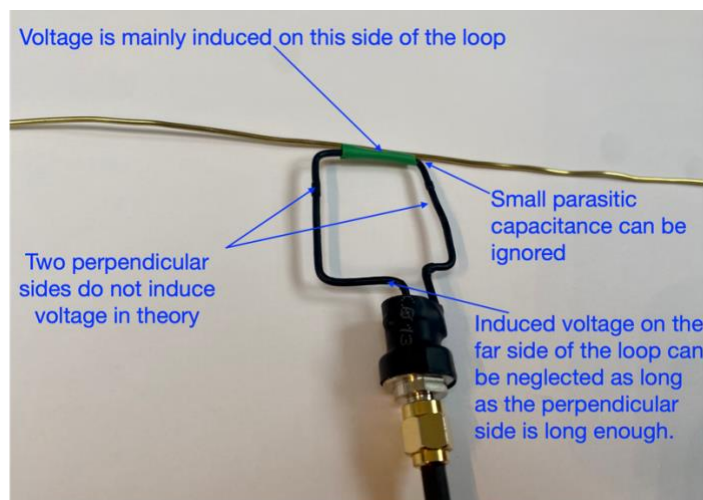

Figure 2 An unshielded square magnetic field loop placed alongside a wire
Therefore, a square magnetic field loop shown in Figure 2 is ideal to measure the induced voltage on one side of the loop, which is proportional to the rate of change of flux generated by rapidly changing current in the wire under test. Such a loop is called magnetic field loop, or “H-field loop”. But it is more accurate to be called a “ $d\Phi/dt$ ” loop.
2. The opposite side of the loop is far enough away so the induced voltage on the far/opposite side of the loop is neglected (see Figure 2).
3. The perpendicular sides of the loop do not induce voltages (see Figure 2).